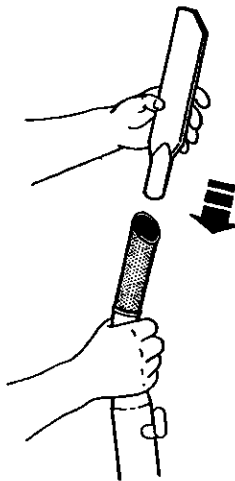

FIGURE 11
- Pull out the Cleaning Wand which resides inside the Hose. Any of the attachments can be inserted into the Handle end. (Figure 11)
The attachments can be fitted onto the end of the Cleaning Wand as per Figure 11 on page 5, or for added versatility, inserted directly into the Hose-end as follows: